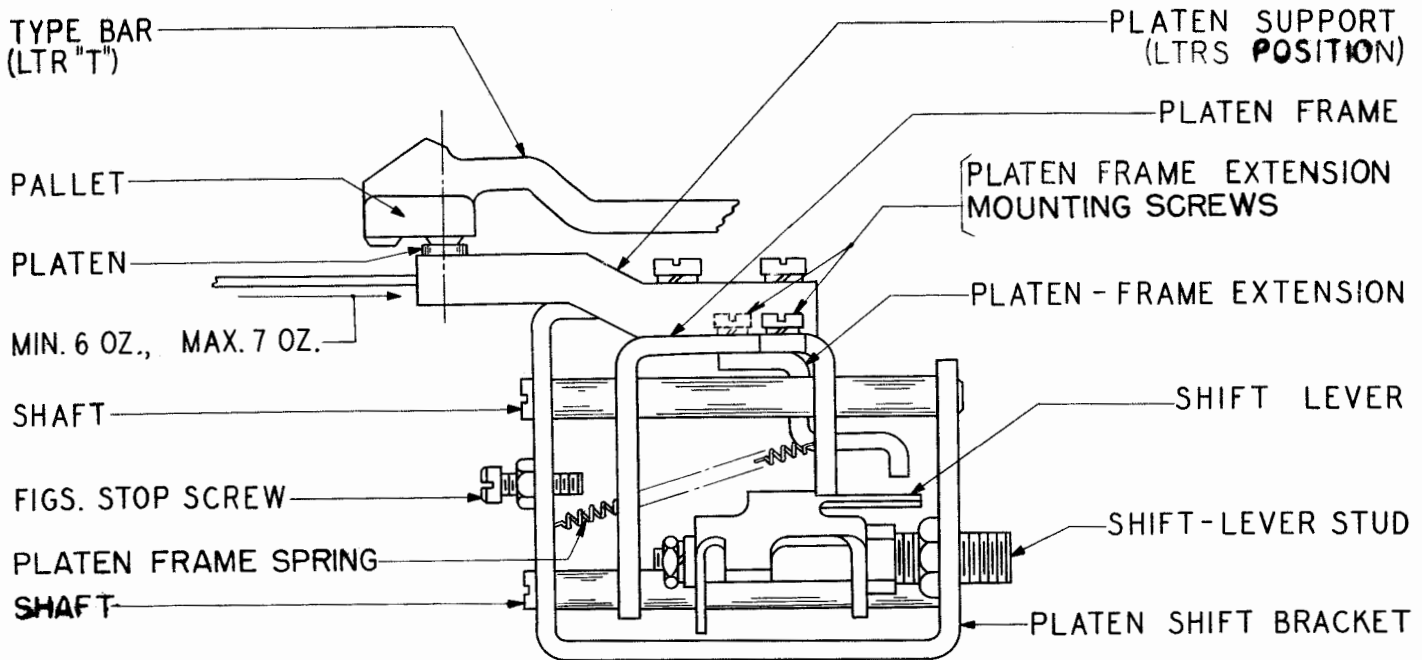

Figure 31
2.44 Shift Lever: The letter T shall print centrally on the platen, when the platen is latched in the LTRS (rear) position. See Figure 31. If adjustment is required, and it is necessary to remove the code-punch and prepunch assemblies to make the adjustment, remove these assemblies as follows:
2.45 Platen-frame Spring: It shall require a push as indicated in Figure 31 to just start the platen frame moving with the main shaft in its stop position and the platen latched in the LTRS (rear) position.
To Adjust: Loosen the platen-frame-extension mounting-screws and reposition the extension by means of its elongated left mounting hole. See Figure 31.